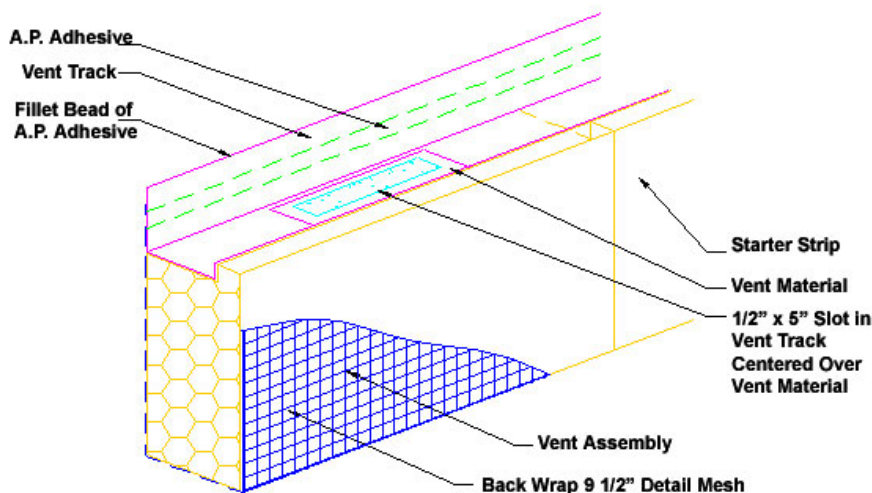

Figure 20
7. Install the Dryvit Vent Track and Dryvit Track by applying a continuous horizontal bead of Dryvit's AP Adhesive on the wall side of the vertical nailing flange of the track and position over the Dryvit Starter Strip. When installing the Dryvit Vent Track the cut out (slot) must be located directly above the Dryvit Vent Assembly – Figure 20. Press firmly against the substrate to ensure firm and continuous contact between the adhesive and the wall surface. **NOTE: It is recommended that the surface of the Drainage Track and Vent Track be lightly sanded to improve adhesion of Backstop NT or AquaFlash.**